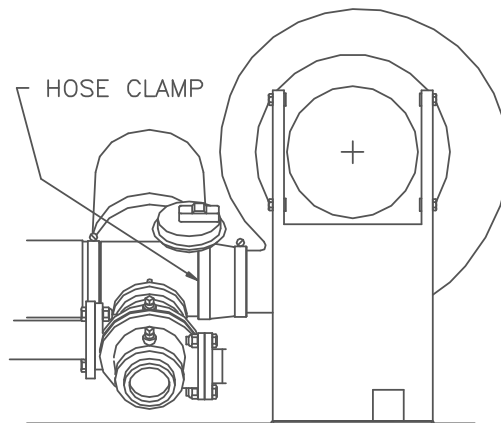

Figure 6.14
15. Loosen the hose clamp on the air/fuel valve inlet and slide the clamp back towards the blower, (See Fig. 6.14).